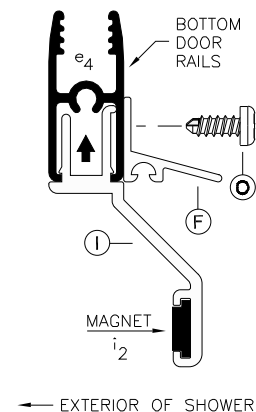
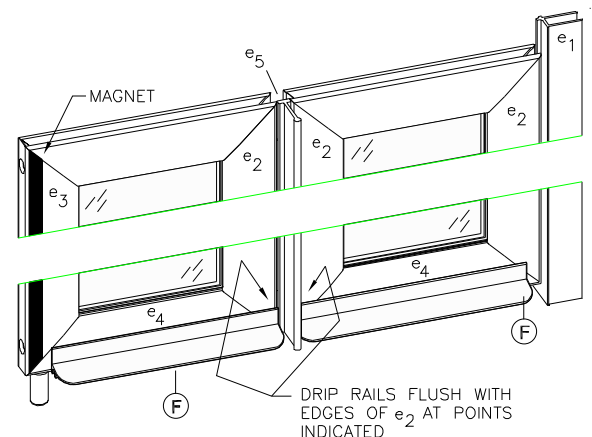
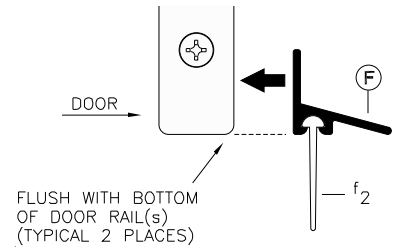

figure 5
figure 6
figure 7
8. Install Magnet Holder Assembly (I) onto the bottom rail (e4) of the "hinge side door" as shown in exploded view - sheet 2. Note that Magnet Holder Assembly is installed as close to Center Hinge Pull (e5) as possible. Magnet (i2) must face toward the outside of the shower enclosure as shown in figure 5.
9. Clean bottom rails of Door Assembly with alcohol to remove any oil. Failure to clean door rails prior to installation of Drip Rails (F) may cause tape to release. Remove backing from tape and position Drip Rails flush with edges of Hinge Stiles (e2) as shown in figure 6 and flush with bottom of Door as shown in figure 7. Secure Drip Rails to Door Panels using four 638phpt Screws (O) as shown in exploded view - sheet 2 and figure 5.
10. Insert the Door Assembly's Hinge Post (e1) into the Post from which it is to swing. Bring the Hinge Post to rest atop the Guide Track (B) and insert the Pivot Bushing (J) into the Guide Track cavity. Remember that regardless of whether the door strikes on the left side or the on the right side, the Door Assembly must always fold in toward interior of shower enclosure. Temporarily leave as is.